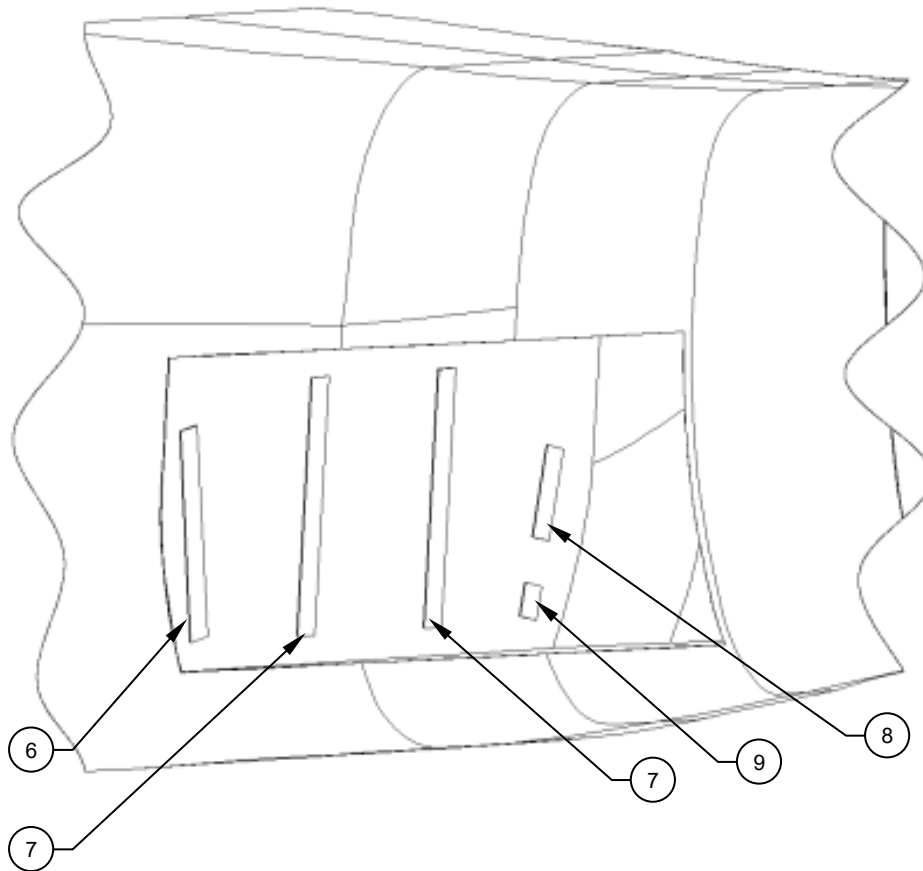

**Figure 2**
2. Pre-fit the Panel, Assy (Item 1) by lining up the exterior profile of the Panel, Assy (Item1), with the bulkhead panel. Reference Figure 2.
3. With the panel lined up use the pre-cut .25 holes and a felt pen to mark out the locations for the Velcro, Details (Items 6, 7, 8 & 9) and remove the Panel, Assy (Item 1). Reference Figure 2.